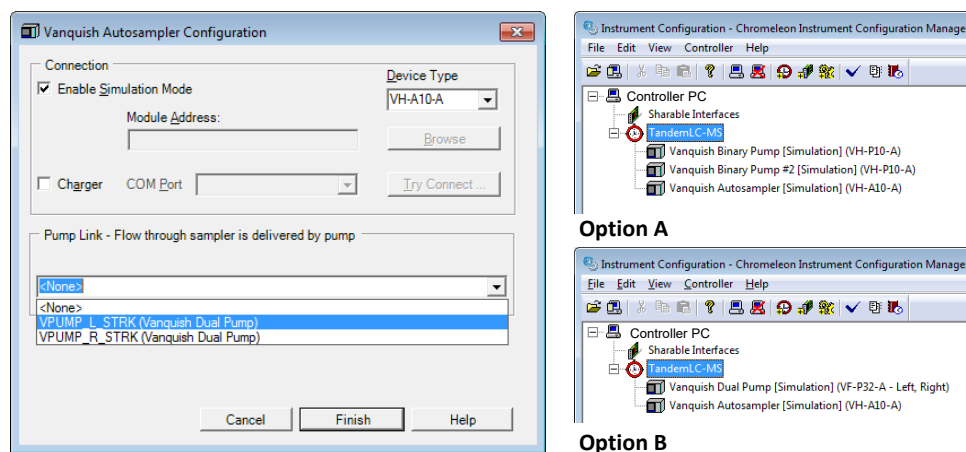

Figure 6: Sampler configuration, Option A based on two separate pumps and Option B with one Vanquish Dual Pump.
4. Add the Vanquish Column Compartment to the instrument. Choose **HPLC: Vanquish** followed by **Vanquish Column Compartment**. Under **Valves**, select the 2 Position 6 Ports Thermo Scientific 150MPa bio valve for the upper and lower valve port (Figure 6).